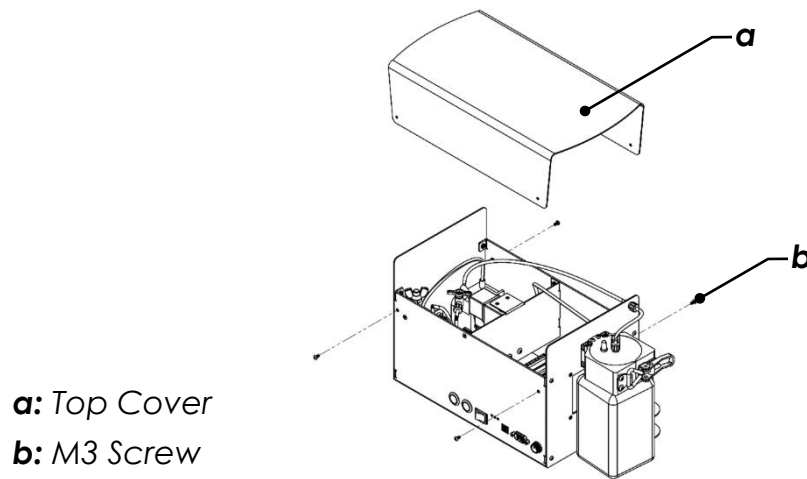

Figure 12
- 2) Unscrew the 4x M3 screws as shown in Figure 12 and take the top cover off.